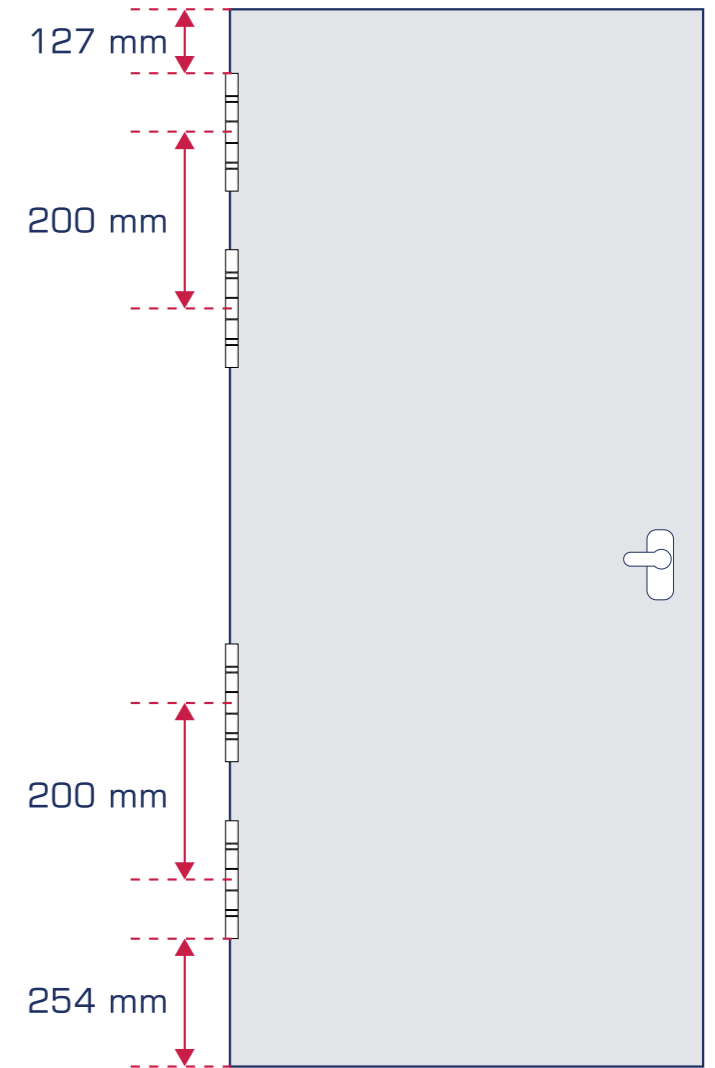

Figure 3
- For heavy doors, or doors equipped with a door closer, and in order to improve load bearing, we recommend that the fourth hinge be installed where the distance between its center and the center of the top hinge is approximately 8 inches (200 mm) (figure 3).